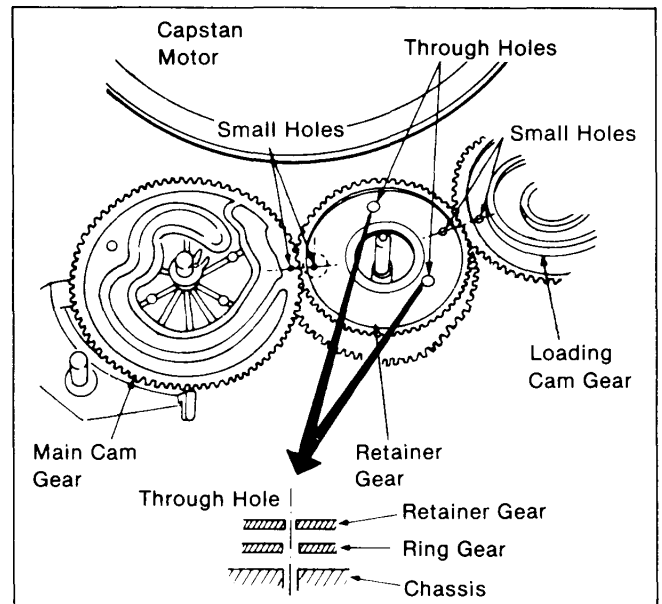

Figure M50
1. Install the Retainer Gear onto the Ring Gear so that the two holes on the Retainer Gear align with the two holes on the Ring Gear, at this time, small hole on the Main Cam Gear should aligns with small hole on the Retainer Gear as shown in Figure M50.
2. Install the Loading Cam Gear so that the small hole which is directly outside of the large hole on the Loading Cam Gear is aligned with the outside hole of the Retainer Gear as shown in Figure M50.